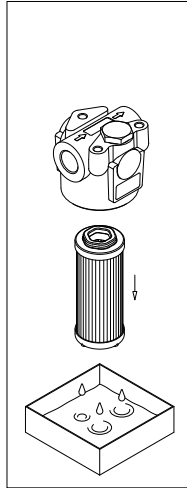

fig. 16
- (Fig. 16) Pull the filter element out.